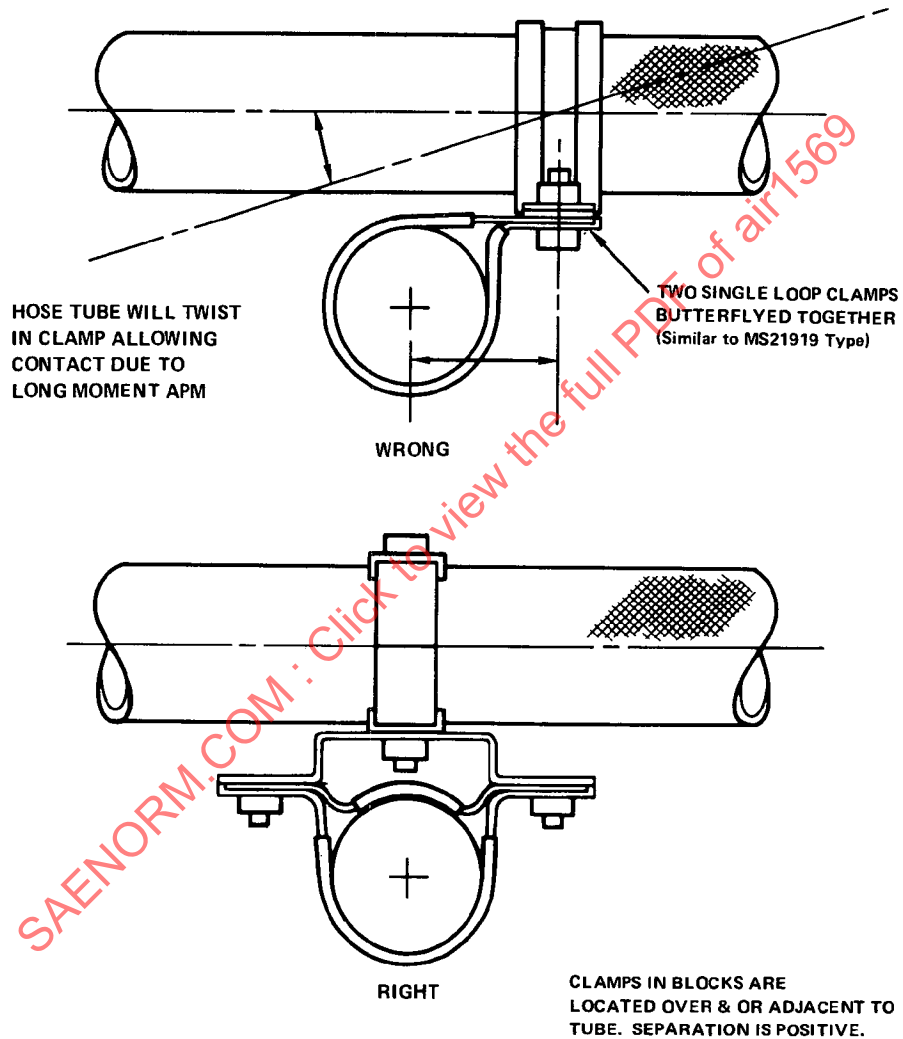

FIGURE 6
- 5.2.4.3 Where clamping is required in order to maintain clearance with crossing tubing or hose runs, a combination of clamps and brackets is sometimes required. These should be designed so that the clamps are near the tubing crossover point and thus will maintain a positive clearance. (See Fig. 6).